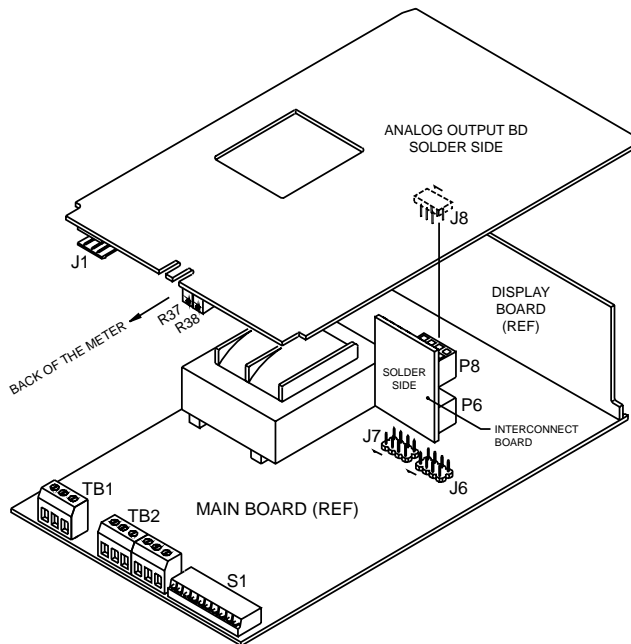

Figure 9-1. Installing the Analog Output Board
Install the analog output board as follows (refer to Figure 9-1):
5. Adjust the input to show a value equal to "**Rn L0**". Adjust R38 potentiometer at the back of the board (refer to Figure 9-1) for 4 milliamp output (0 volts).